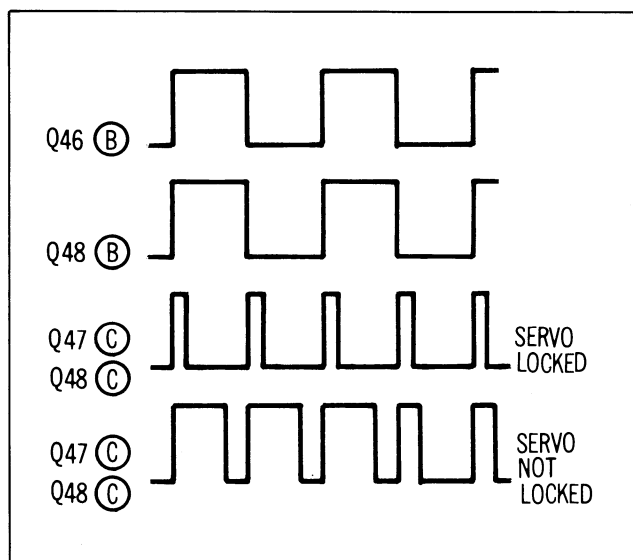

Figure 2-142
This circuit generates a low when the servo is close to lock. The reference signal from IC12-(8) is supplied to the base of Q46, inverted, and applied to Q47. The head switching pulse is supplied to the base of Q48. As a result, a pulse whose width represents the phase difference between the reference signal and the head switching pulse appears at the collectors of Q47/Q48. Then the pulse is integrated by R349 and C114 (See Fig. 2-142). Since the integrated